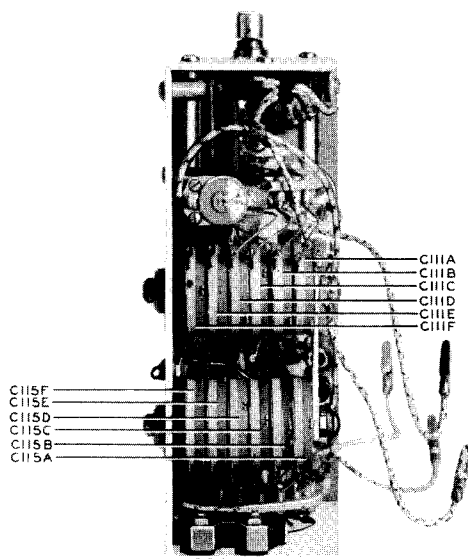
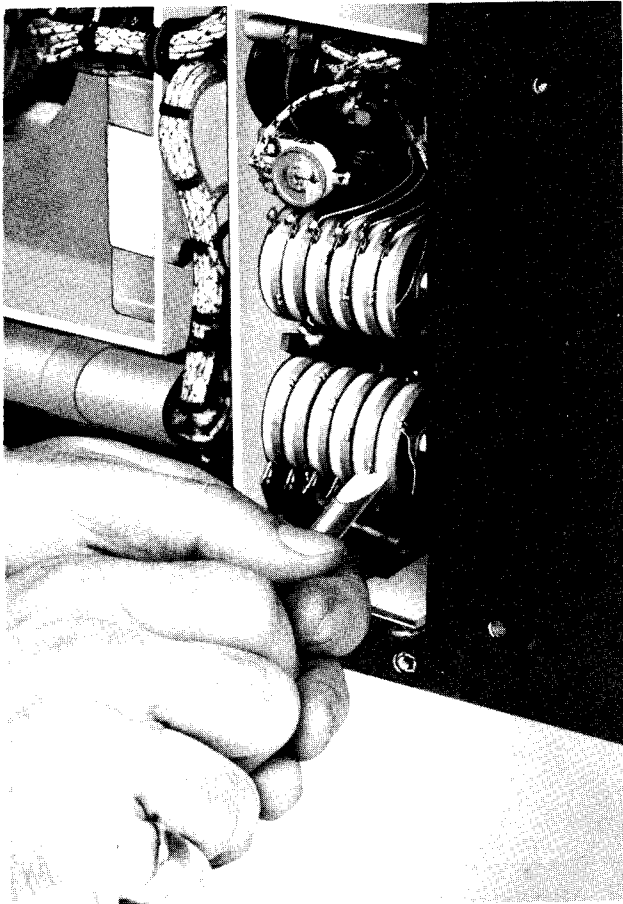

Figure 5-8. Frequency Multiplier
Figure 5-9. Frequency Multiplier Adjustment
e. FREQUENCY MULTIPLIER ALIGNMENT. (Refer to figure 5-8. and figure 5-9.)
(1) Having completed the alignment of the high-frequency oscillator circuit complete the R-F circuit alignment by following the procedure outlined below for the adjustment of the frequency multiplier circuits: